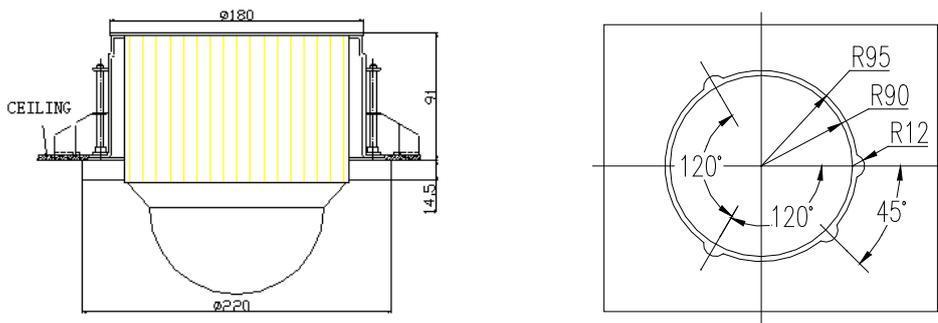

Fig 1
1. Drop ceiling mount (Fig 1):